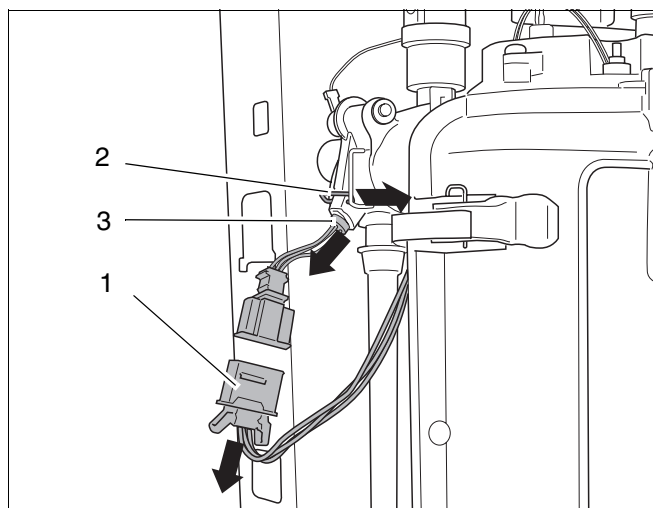

fig. 84 Replace bi-sensor
- Disconnect the plug of the bi-sensor (see fig. 84, item 1).
- Remove spring clip (see fig. 84, item 2)
- Remove the bi-sensor (see fig. 84, item 3).